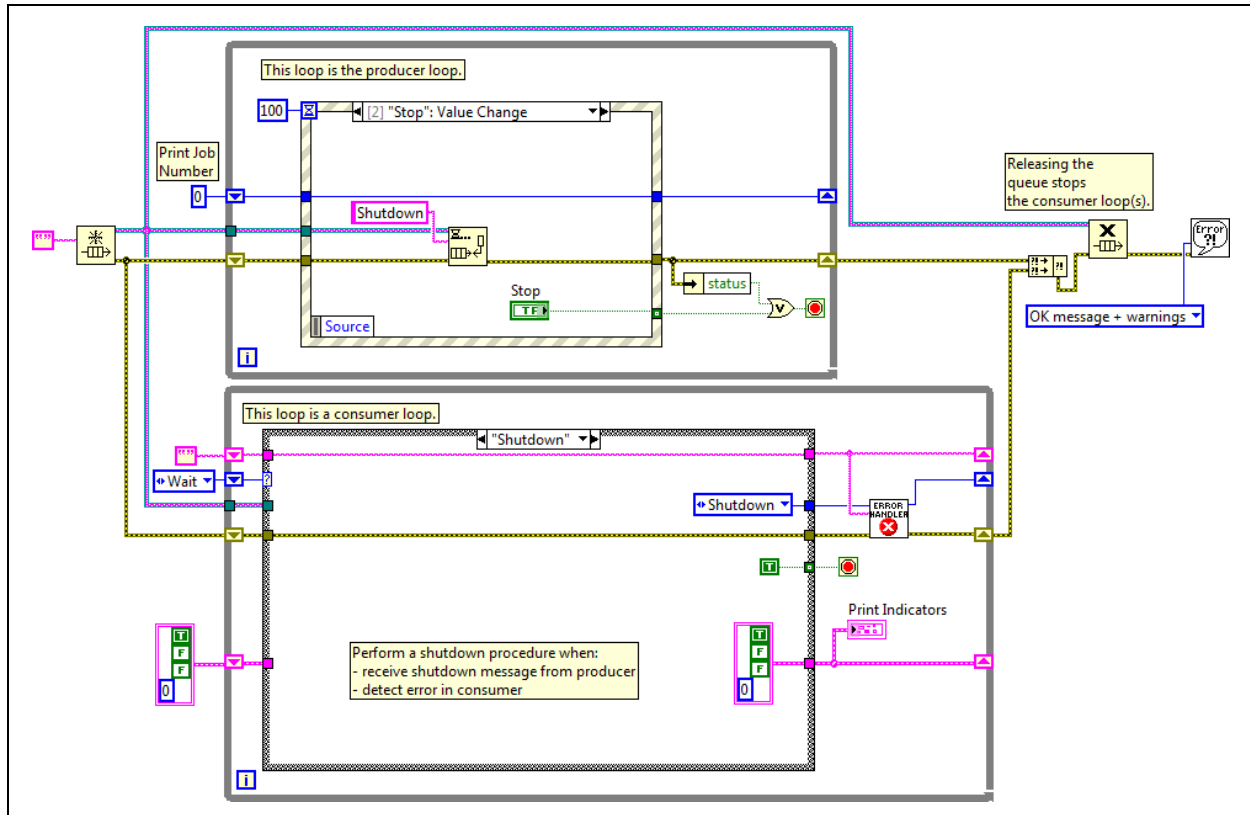

Figure 4. Block Diagram with Printer Error Handler VI
1. Modify the diagram as shown in Figure 4 so that the consumer loop executes the Shutdown case when the producer loop stops or when there is an error in the consumer loop.
- Wire the Stop event case as shown in Figure 4.
- Wire the consumer loop as shown in Figure 4.